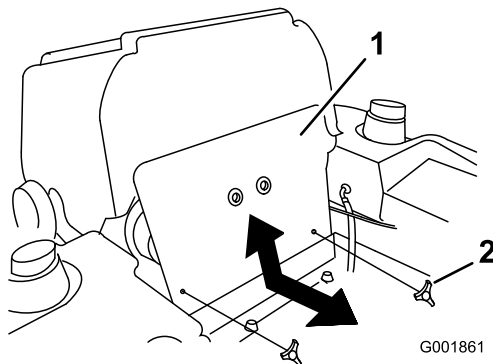

Figure 1
6. Tilt the seat forward and remove the front engine panel (Figure 1).